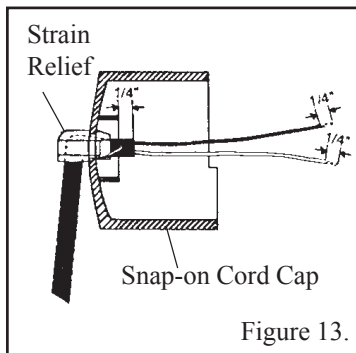

Figure 13.
5. Reinstall the snap-on cord cap to the stripped end of the cord leaving 1/4 inch black insulation protruding into the cap with the strain relief positioned as illustrated in Figure 13.